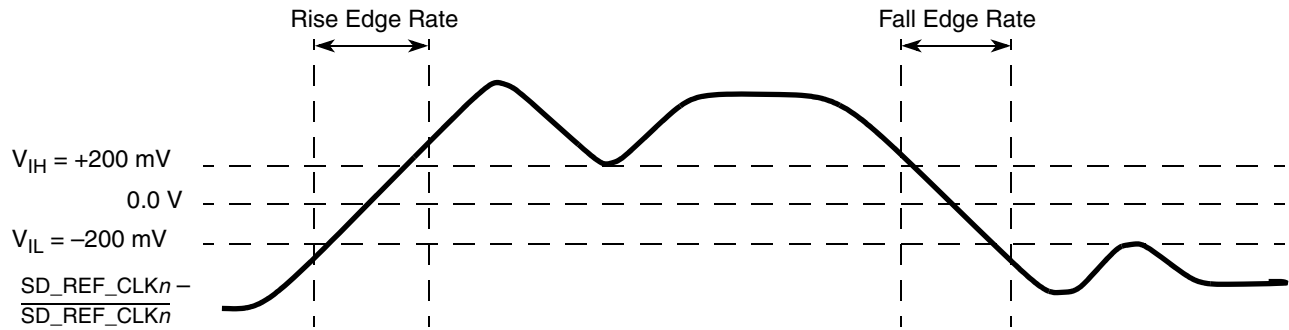

Figure 37. Differential Measurement Points for Rise and Fall Time
only one signal trace curve in a differential waveform. The voltage represented in the differential waveform is not referenced to ground. See Figure 37 as an example for differential waveform.
3. Measured from −200 mV to +200 mV on the differential waveform (derived from SD\_REF\_CLK $n$  minus  $\overline{\text{SD\_REF\_CLK}}_n$ ). The signal must be monotonic through the measurement region for rise and fall time. The 400 mV measurement window is centered on the differential zero crossing. See Figure 37.